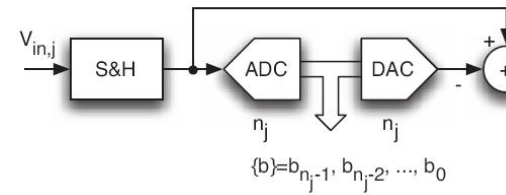

Figure 4.36. Block diagram of a pipeline stage.
- Fig. 4.36: generic pipeline stage.